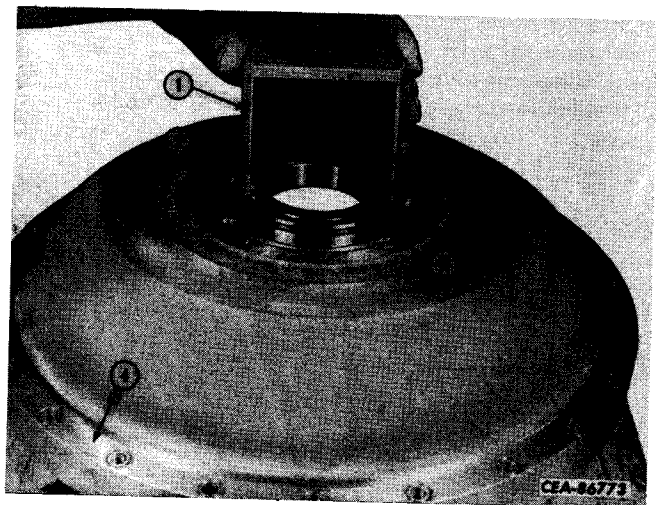

Figure 3-52
Block outer flange of impeller (4, Fig. 3-52) with blades down. Using a suitable sleeve (1), drive impeller bearing (2) into bore until snap ring (3) bottoms in its groove in impeller.